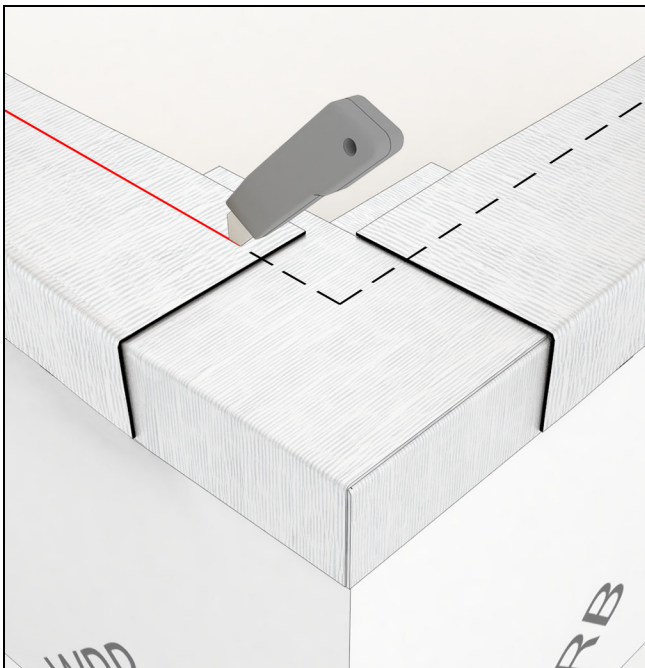

Figure 26
10. Where applicable, trim excess sill flashing material flush with the interior framing. See Figure 26.